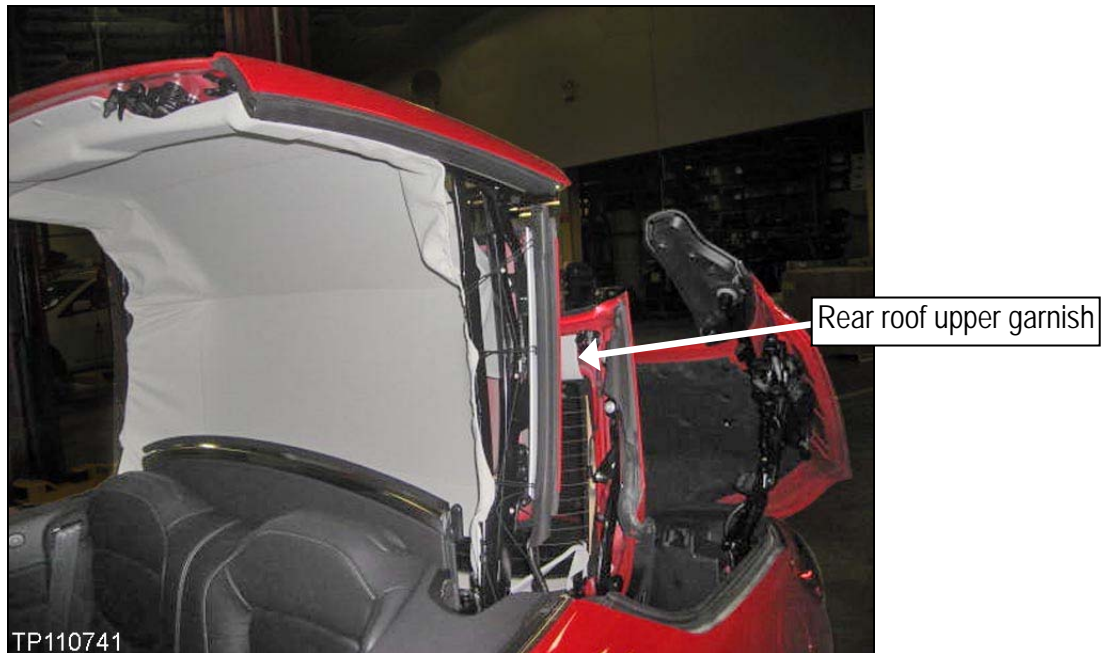

Figure 4f
5. Next, position the roof as shown in Figure 4f.